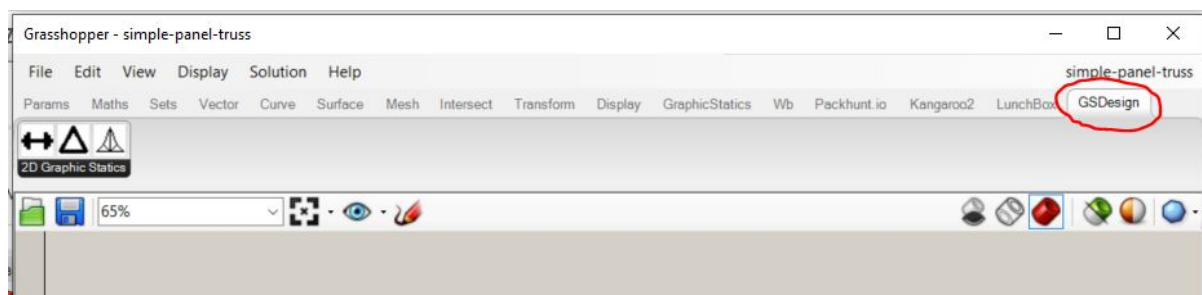

Figure 1: Grasshopper interface with GSDesign plugin properly installed
6. GSDesign should now be added as an extra plugin, and should show up like displayed in figure 1. If you receive an error message similar to the one in figure 2, you should update Rhino. Version 6.31.20315.17001 or higher is required.